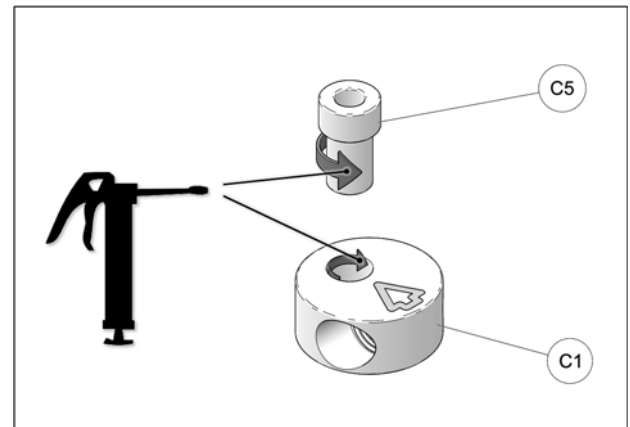

Fig. 22
12. Apply grease evenly all around step spacer bushing (C5) and in hole of aluminum disk (C1) when assembling these parts together. See Fig. 22